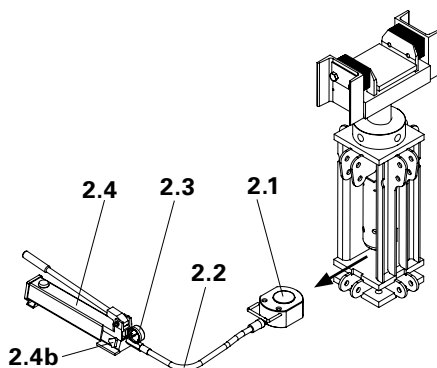

Fig. 28
3. Remove hydraulic cylinder from the Head Spindle VST. (Fig. 28)